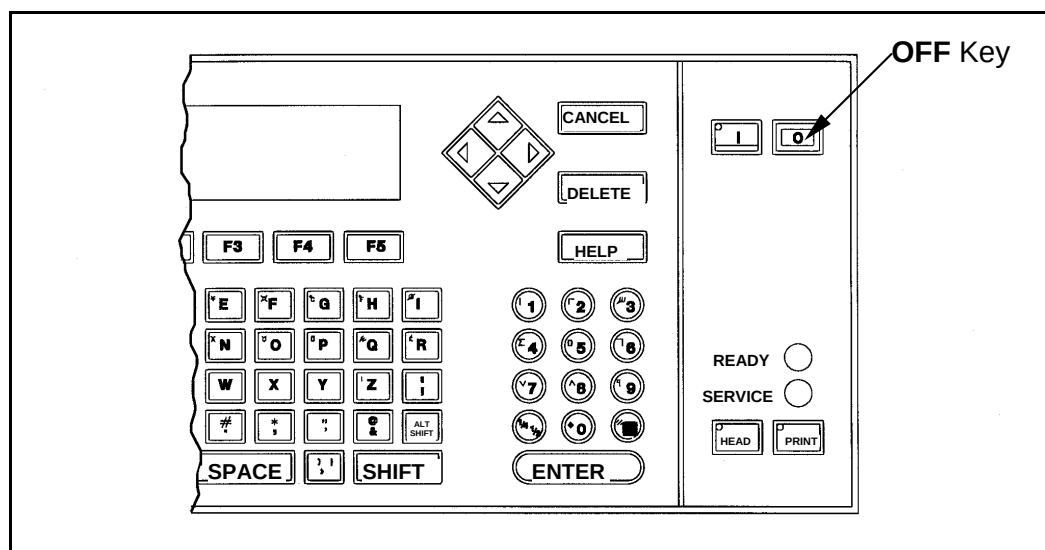

Figure 4-5. OFF Key
1. Press the **OFF (O)** key to begin the shutdown sequence. (Refer to Figure 4-5 for the location of the **OFF** key.) Refer to the next page for an explanation of the Printer Shutdown sequence.